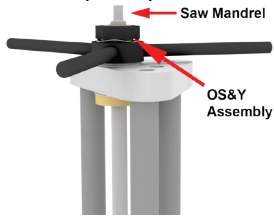

Figure 18
**3.2.14)** Tighten the packing nut when the cutter and pilot drill are completely inside of the installation housing. The hexagon end of the saw mandrel should be at or near the OS&Y Assembly (see Figure 18).